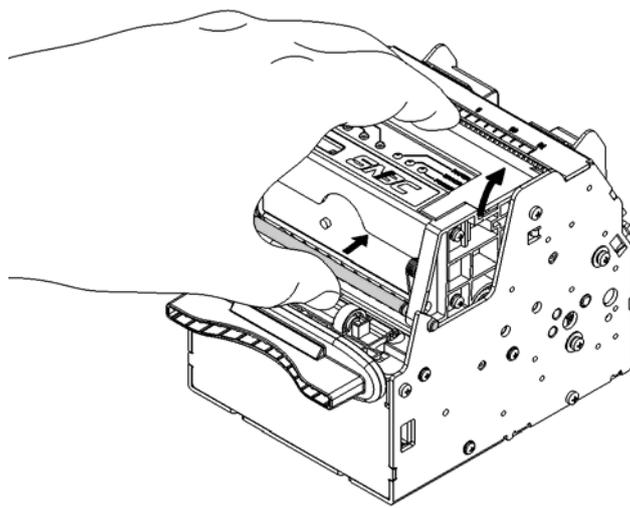

Figure 5.2-1 Cleaning print head
- 2) Slightly press the lock axis of top cover in the direction shown in the figure 5.2-1 to open the top cover module;
- 2) Slightly press down the clock axis of top cover in the direction shown in the figure 5.2-1 to open the top cover module;
- 2) Refer to steps 2 in "5.2 Cleaning print head and platen roller", slightly press down the lock axis of top cover in the direction shown in figure 5.2-1, and open the top cover module;